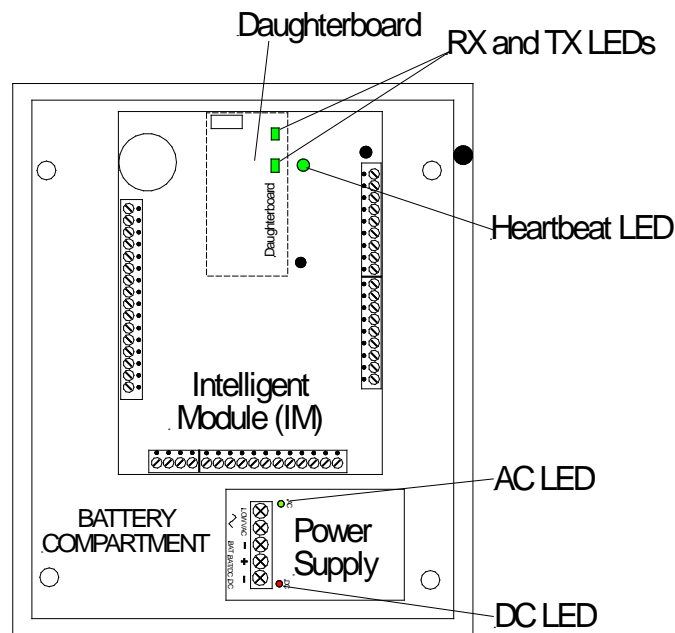

Figure 3-1. Contents of a Single-Module Enclosure
- A Single-Module Enclosure (10" x 12" x 4") that can house one Intelligent Module, a 12V 1.2A power supply, and the backup battery (see Figure 3-1)